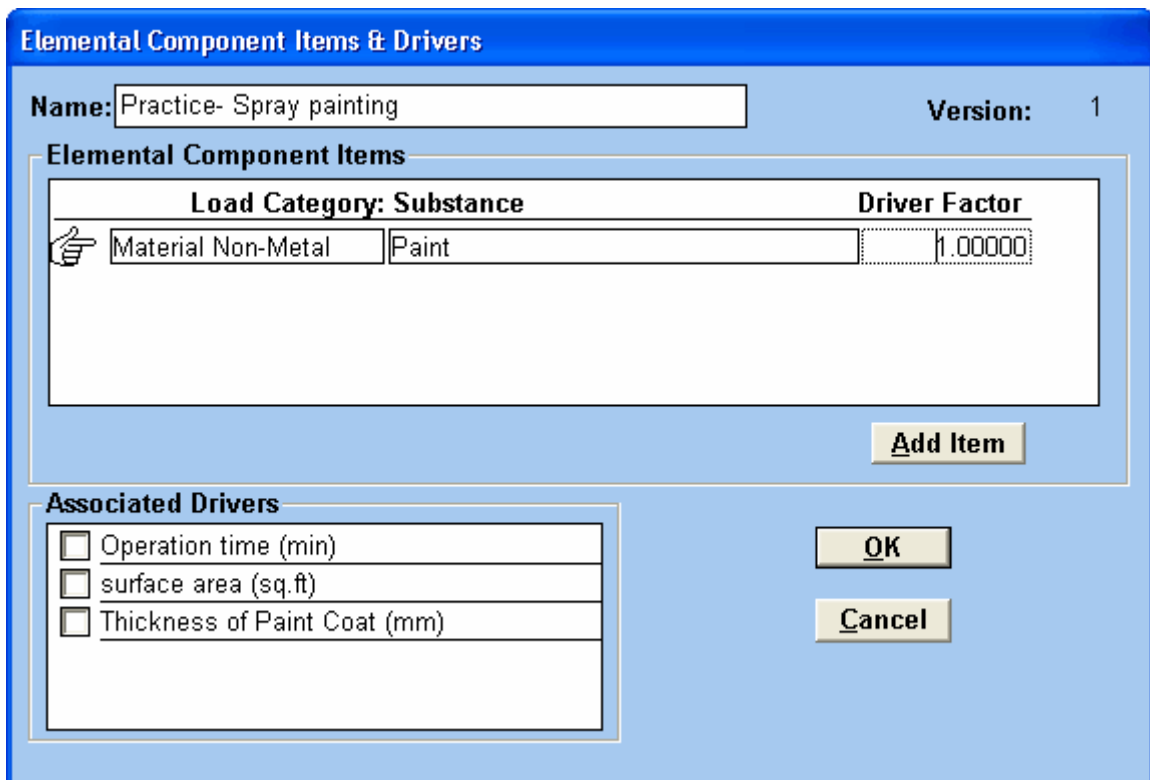

Figure 28: Adding Load Category-Substances, driver factors and associating drivers with an Elemental Component Process.
13. Choosing **OK** for **Material Non-Metal: Paint** will enter it into Figure 26, which will now look like Figure 28. In the center box title "Elemental Component Items" the Material Non-Metal: Paint is listed. It has default driver factor of value 1. Highlight the value 1.00000 and press **DEL** to delete it and enter 0.00643. Then click on the drivers "surface area" and "thickness of paint coat" until a cross appears in the box associating the drivers with **Material Non-Metal: Paint**. See Table 4.)
15. It will bring you back to the screen in Figure 28 with the second added listing of **Energy Renewable - Electrical**. Then **press DEL to delete** the default driver factor value of 1.00 and enter 2.4. Then associate the driver *operation time* (until a cross appears in the adjoining box) and choose **NEW**.
17. It will bring you back to the screen in Figure 28 with the second added listing of **Energy - Gas**. Then **press DEL to delete** the default driver factor value of 1.00 and enter 0.186. Then associate the drivers *surface area* and *thickness of paint coat* (till a cross appears in the adjoining box) and choose **NEW**.
19. It will bring you back to the screen in Figure 28 with the second added listing of **Emission - Industrial Waste**. Then **press DEL to delete** the default driver factor value of 1.00 and enter 250. Then associate the driver *operation time* (until a cross appears in the adjoining box). We have now entered all the Load Category Substances, their driver factors, and drivers. Choose **OK**.
20. After all the Load Category Substances have been associated with the drivers and the driver factors, the window in Figure 28 will look like Figure 29.